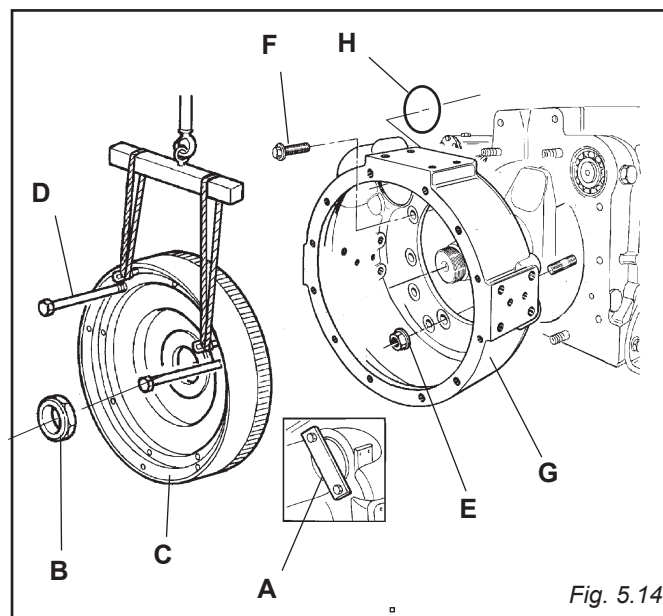

Fig. 5.14
5.17 FLYWHEEL (FIG. 5.14)
5.18 FLYWHEEL HOUSING (FIG. 5.14)